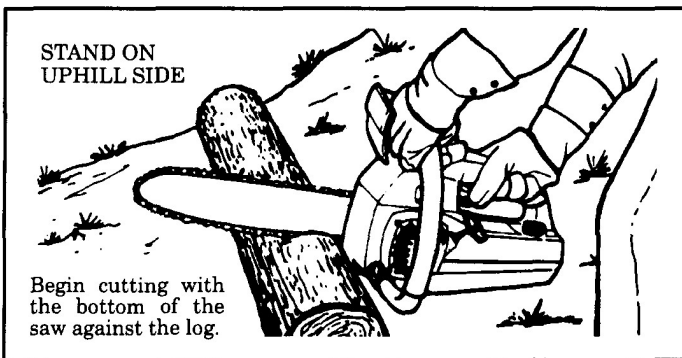

Figure 16
- Begin cutting with the saw frame against the log.** Figure 16.